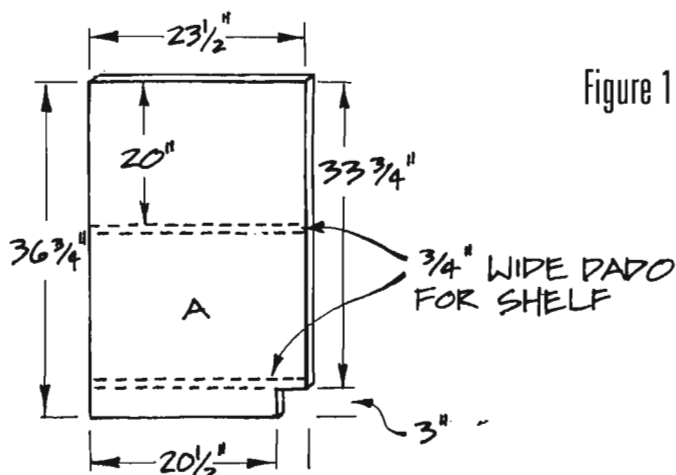

Figure 1
1. Cut two cabinet sides (A) from 3/4-inch-thick plywood according to the dimensions given in *Figure 1*.
3. Cut two cabinet shelves (C) from 3/4-inch-thick plywood, each measuring 23 by 34-1/2 inches.
4. Inspect each face of the two cabinet sides (A), and choose the better ones to face outward on the finished cabinet. On the inner faces of the two cabinet sides (A) and the cabinet back (B), cut two dados, each 3/4-inch-wide and 1/4-inch deep, at the heights indicated in *Figures 1* and *2*. These provide support for the shelves (C).